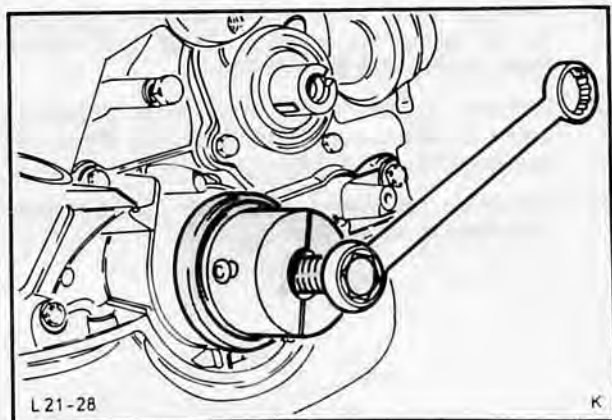

Fig. 79. Remove crankshaft pulley using Special Tool 21-028
10. Remove auxiliary shaft and crankshaft pulleys. On jammed crankshaft pulley use Special Tool 21-028, Fig. 79.